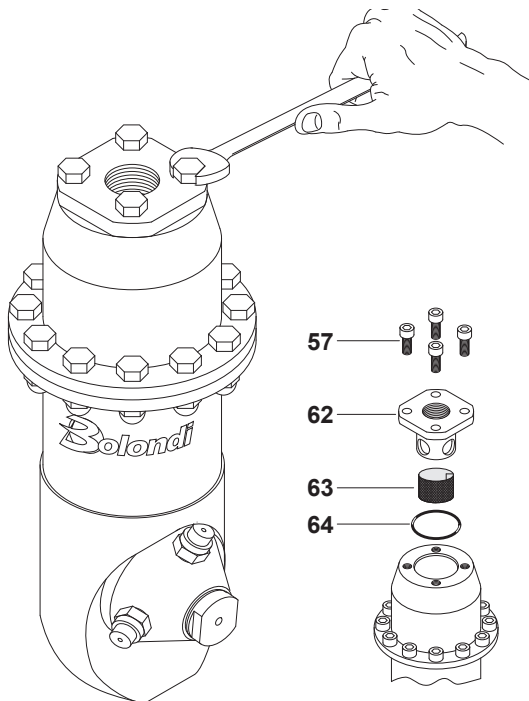

Fig. 9.00
9.1.01) Loosen and remove the screws pos. 57, disassemble the filter holder flange pos.62, and remove the cartridge pos.63 (Fig.9.00).